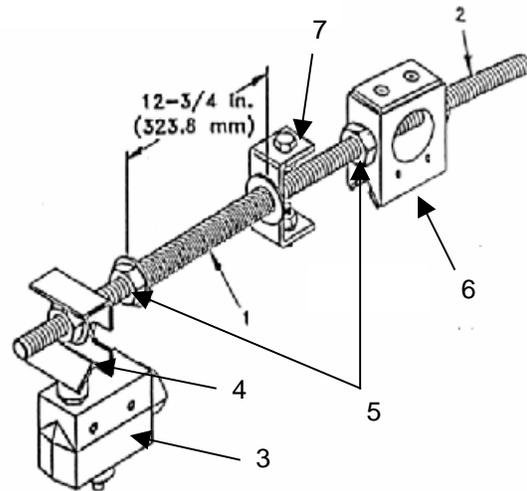

Figure 8-9c Montgomery and Montgomery KONE Carriage Spring
29. What action should you take if part #6 is against part #7 in figure 8-9c below?
30. Match the part named below with the numbers in figure 8-9c. All must be correct to get one point.
32. What is the status of part #6 in figure 8-9c when the carriage oscillates due to load change in the stepband?